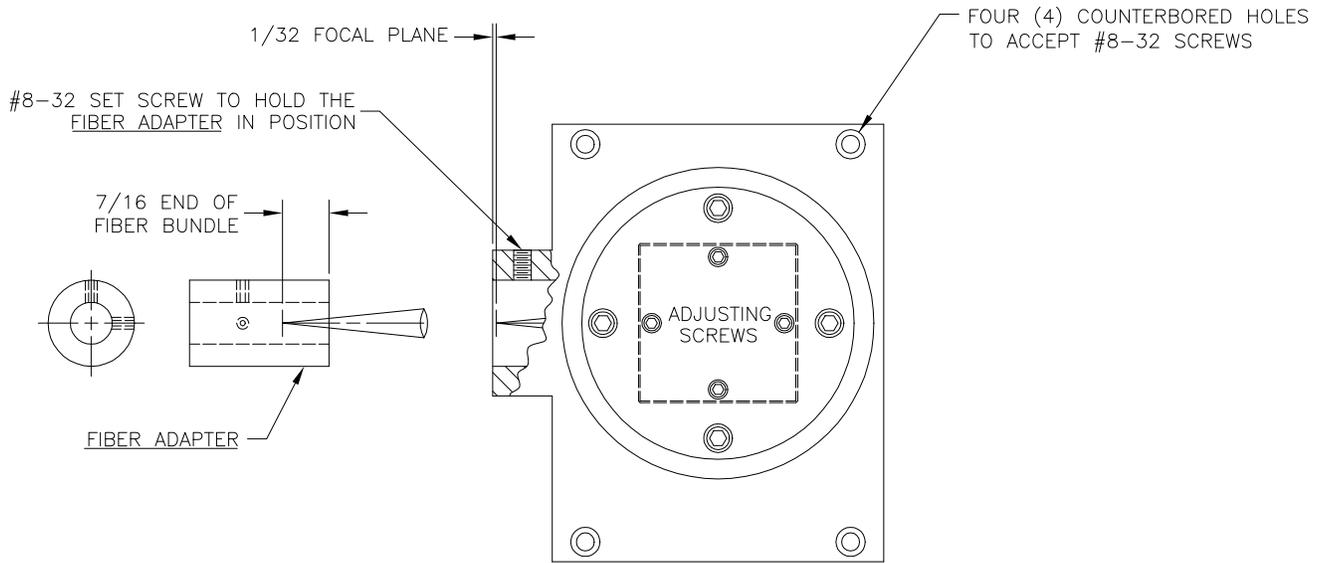

FIGURE 2
2. Loosen the #8-32 set screw that holds the Fiber Adapter in position and slide it out of the Imaging Fiber Coupler (See Figure 2).
3. Slide the Fiber Optic Input into the Fiber Adapter so that the end of the bundle is located approximately 7/16" from the end of the Fiber Adapter (See Figure 2). The standard Fiber Adapter accepts a 10 mm diameter ferrule (other adapters are available as an option).
7. When best focus is achieved, tighten the #8-32 set screw to hold the Fiber Adapter in position (See Figure 2).